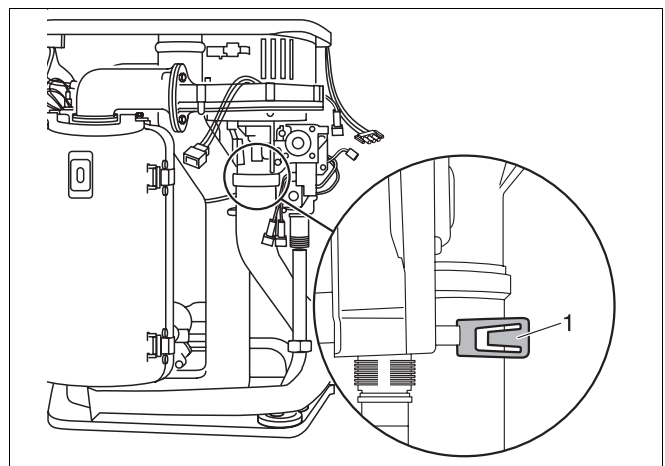

Fig. 61 Remove safety plate
- Push safety plate out of way (fig. 61, item 1).